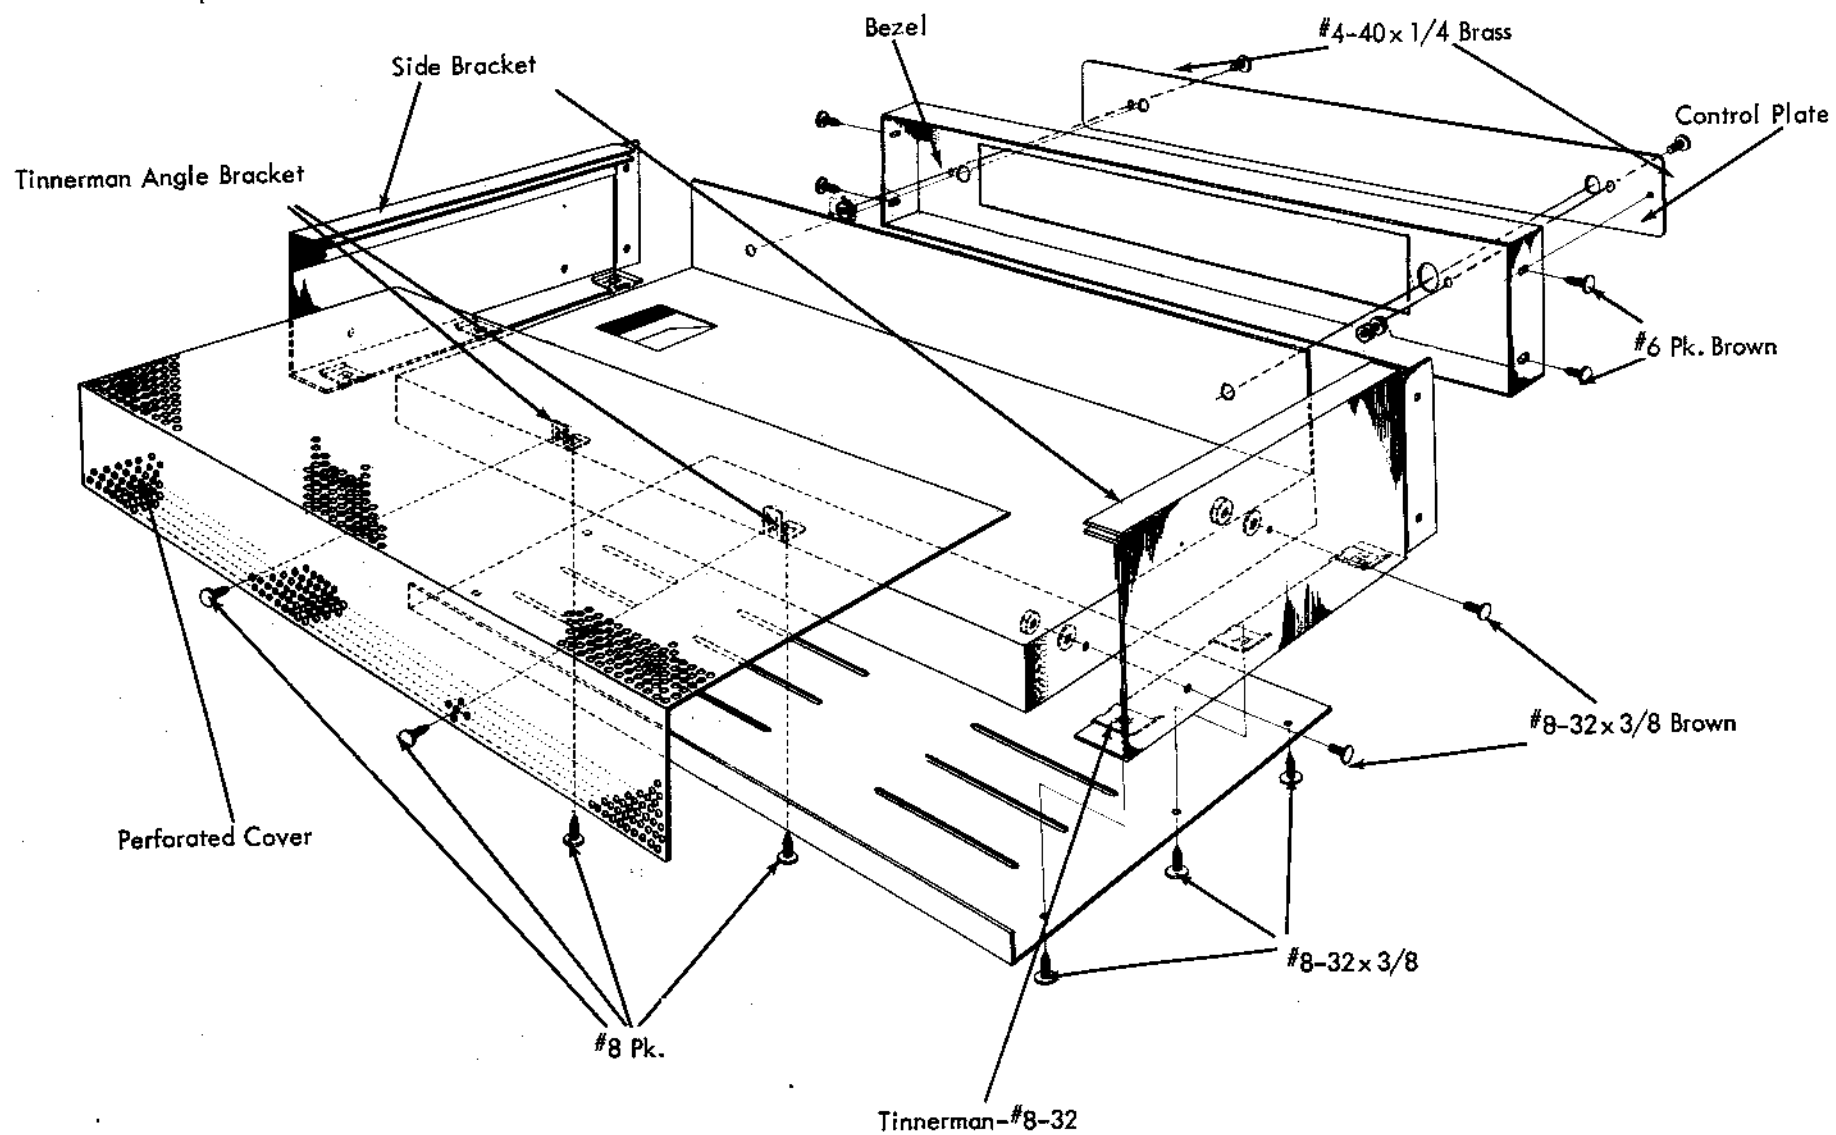

Fig. 10
4. (✓) Fig. 10. Assemble the left and right side pieces to the chassis. Each side piece is mounted with two #8-32 x 3/8 brown colored screws, two #8-32 hex nuts, and two #8 lockwashers.
5. (✓) Fig. 10. On the bottom flange of each side piece, press a tinnerman #8-32 - Type J speed nut in place over each of the three holes.
6. (✓) Fig. 10. Mount the bottom plate on the bottom flanges of the side pieces, using six #8-32 x 3/8 uncolored screws. Note that the rear flange on the bottom plate fits over the outside of the rear chassis apron.
7. () Fig. 10. Install the rubber feet in the openings provided in the bottom plate. The method is to work the rounded portion of each foot into the interior of the cabinet from the outside, using a small screwdriver. The flat surface of the bottom plate is the outside and the surface with the two flanges is the inside. When finally mounted, the flat surface will be seen while the sur-
8. (✓) Fig. 10. Insert the perforated cover into the "rails" on the side pieces and slide it forward fully.
9. () Fig. 10. Mount the control plate on the bezel using two each #4-40 x 1/4 screws, #4 lockwashers and #4 hex nuts to fasten it to the bezel. Note that the narrower portion of the cutout in the bezel is at the top. Press the plastic pilot jewel into place on the control plate.
10. () Fig. 10. Fit the bezel and control plate over the projecting control and slide switch shafts, onto the ends of the side pieces and the perforated cover. Assemble the bezel to the side pieces with four #6 x 1/4 brown colored P. K. screws. Before tightening the screws finally, be sure there is adequate play to slide the perforated cover out.
11. () Fig. 10. Fasten the perforated cover to the two tinnerman angle brackets (previously mounted on the rear edge of the chassis surface) using two #8 P. K. Type Z screws.
12. () Fig. 10. Set all controls to the furthest counter-clockwise position. Mount the knobs on the shafts with the indicating dots pointing as follows: SELECTOR knob at AUX A; MODE knob to AMPL. 1; LEVEL knob at 0, BASS and TREBLE knobs to -5. Note that all clutch controls are at their maximum counter-clockwise position.